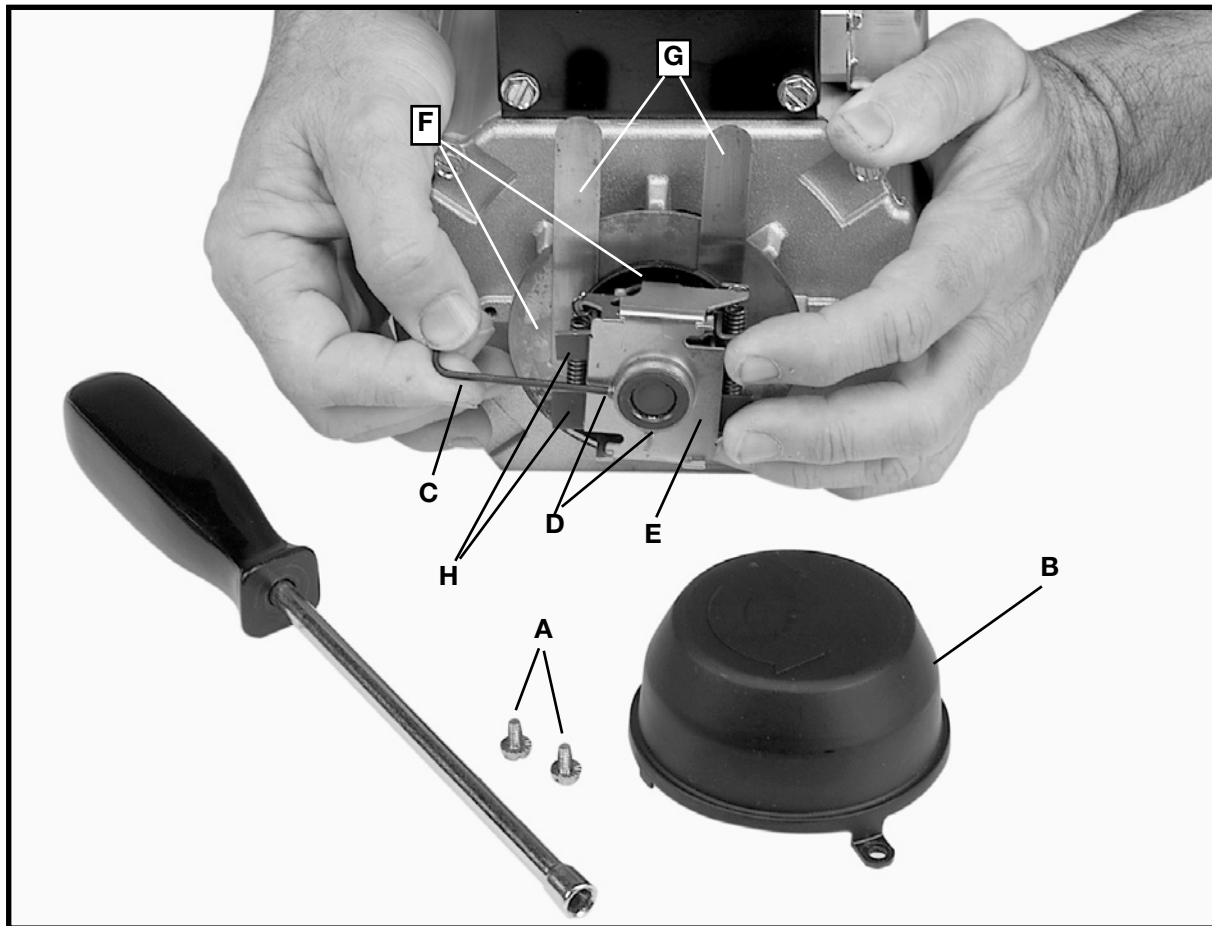

Fig. 68
2. Remove two screws (A) Fig. 68 securing plastic brake mechanism cover (B). Remove cover.
3. Using 5/64" hex wrench (C), loosen two (2) set screws (D) securing mechanical brake mechanism (E).
5. Clean brake shoe and brake disc (F) to remove any dust and oil build up.
6. Place disc and brake mechanism onto shaft. Place two .020" shims (G) between disc and brake shoe. See photo above for proper shim placement.
7. Push brake mechanism toward disc until the flyweights (H) expand and firm resistance is felt. Carefully hold